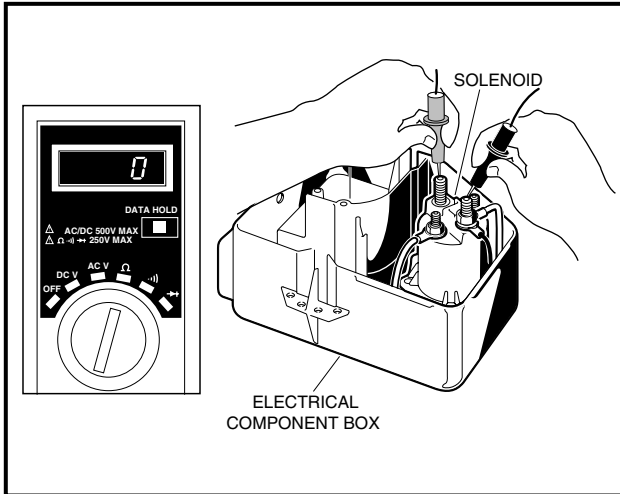

FIGURE 12-22
7. Set the multimeter to ohms ( $\Omega$ ). Connect the red (+) probe to one of the large posts of the solenoid and connect the black (-) probe to the other large post (**Figure 12-22, Page 98**).